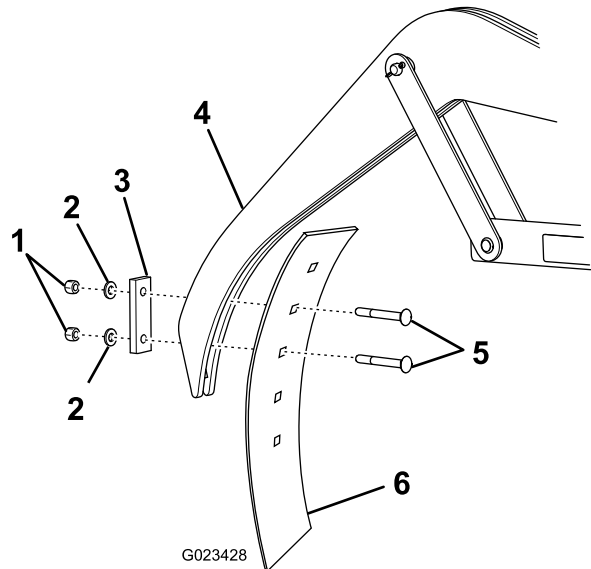

Figure 3
7. Install the crumber blade onto the crumber bar with 2 carriage bolts (1/2 x 4 inch), a plate, 2 washers (1/2 inch), and 2 locknuts (1/2 inch) as shown in Figure 3.